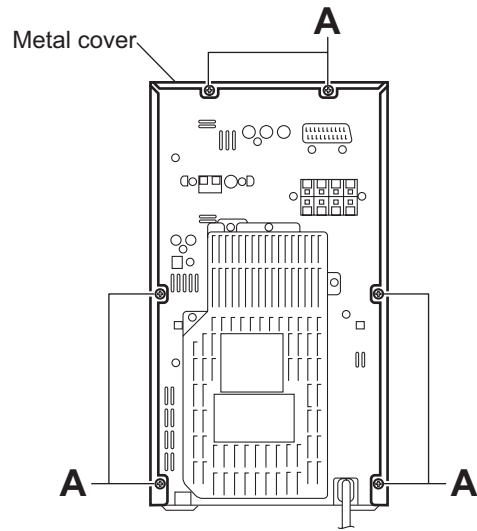

Fig.1
3.1.1 Removing the metal cover (See Figs.1 to 3)
- (1) From the back side of the main body, remove the six screws **A** attaching the metal cover. (See Fig.1.)